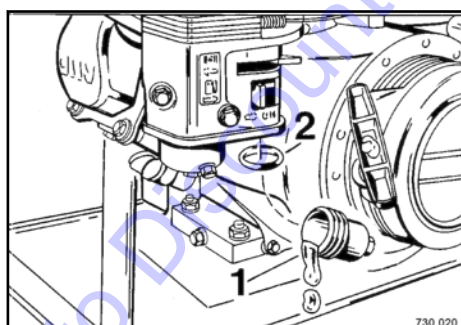

Fig. 46
With the fuel tap closed unscrew the fuel sludge filter (1) ↗ Fig. 46 and wash out in fuel.